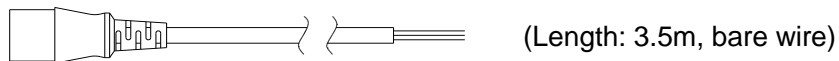

Fig.7-8 AC Power cord for 200V
6. When using 200VAC power supply, use optional AC power cord 200V (Fig. 7-8: 0311-5112).